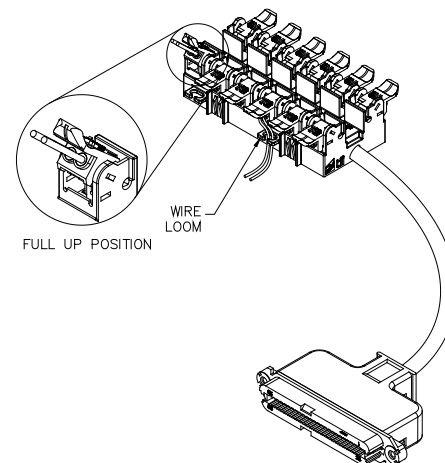

Figure 2
- Lift the rocker to the full up position. DO NOT strip wires. Hold the wire pair to be terminated between thumb and index finger. Insert wires into wire guides simultaneously until they bottom-out. While holding wires in position, terminate rocker by lowering to the full DOWN position. Figure 2.
- Test for continuity using the test points. Figure 2.
- To keep wire pairs organized, route them through the molded wire looms as shown in Figure 2.